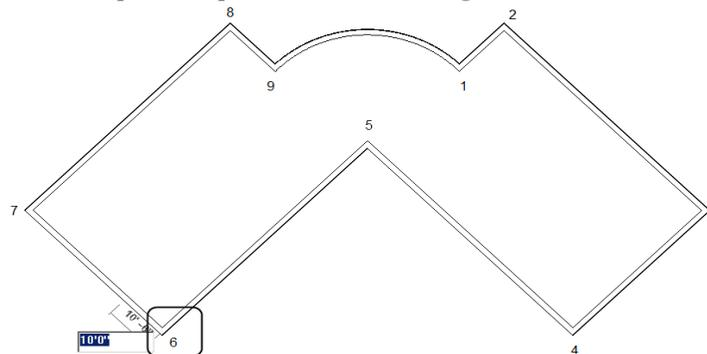

Figure 3-69 Specifying the start point of the first interior wall
- f. Sketch the interior walls based on the given parameters, refer to Figures 3-69 through 3-75.
3. Move the cursor close to the lower left corner, marked as 6, refer to Figure 3-69, and traverse upward along the centerline of extreme left wall of the building profile. When the temporary dimension appears, enter the value **10'(3048 mm)** and press ENTER to start the interior wall profile from the specified point, as shown in Figure 3-69.